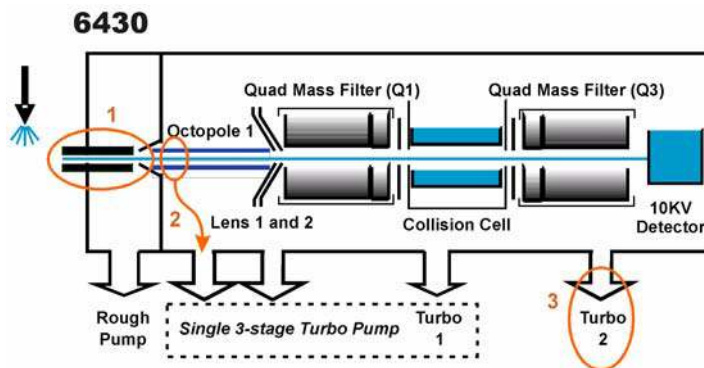

Figure 8 Enhancements in the 6430
- The same inert capillary transfer tube (denoted as 1 in Figure 8)
- Improved pumping in vacuum stage 2 (denoted as 2 in Figure 8)
- A second turbo pump has been added (denoted as 3 in Figure 8)